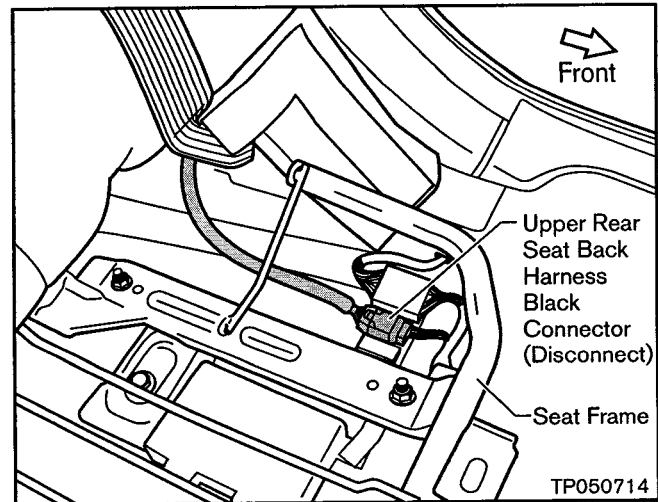

Figure 6
- c. Disconnect the Upper Rear Seat Back Harness Black Connector (see Figure 6).